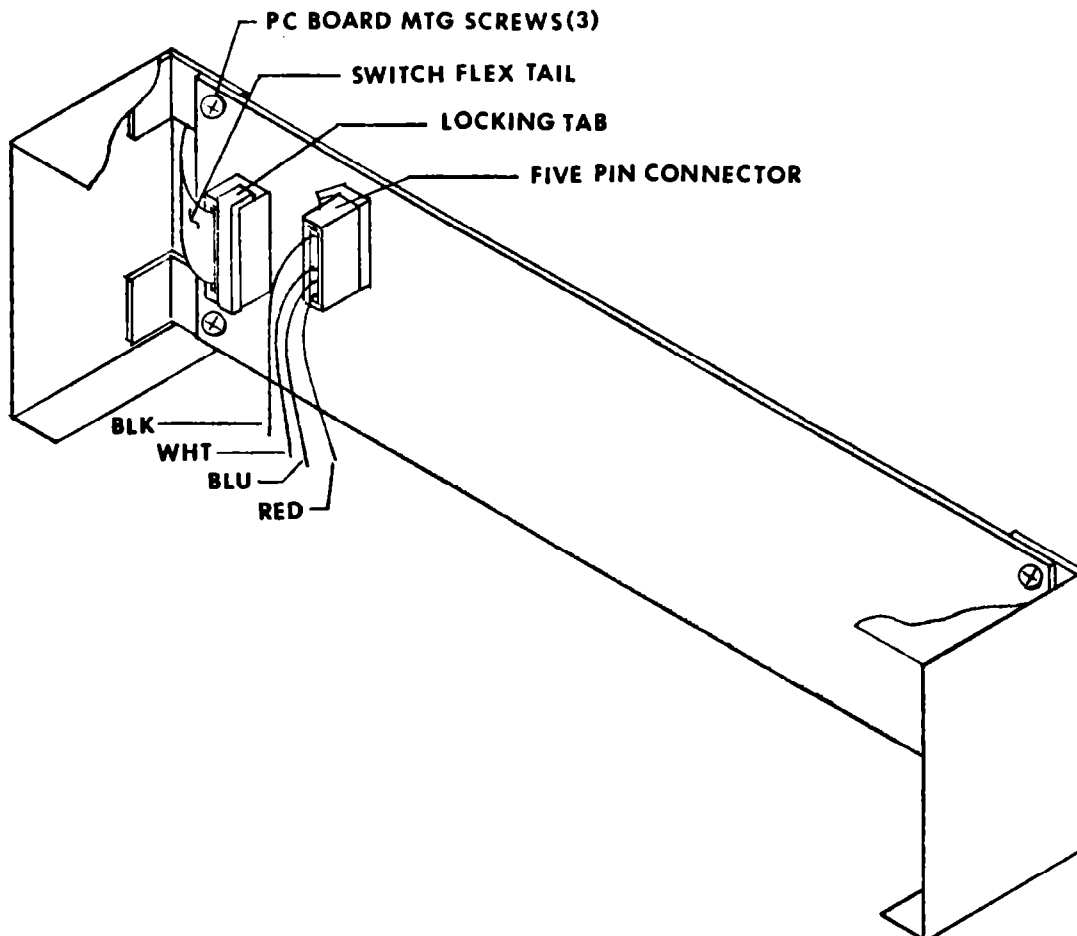

FIG. 2 P C BOARD REMOVAL
6. Replace the control circuit board (See Figure 2):